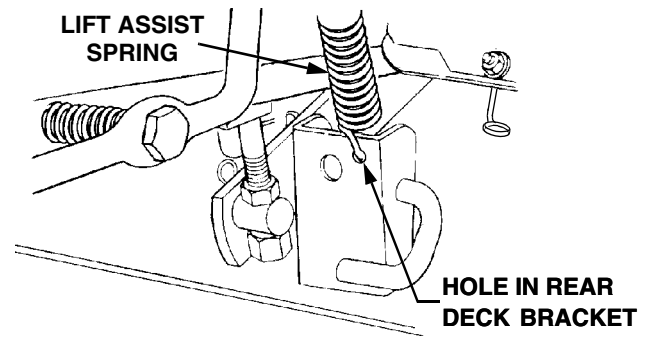

Figure 29
3. Install the lower hook of the lift assist spring into the hole in the right rear deck bracket (See Figure 29).